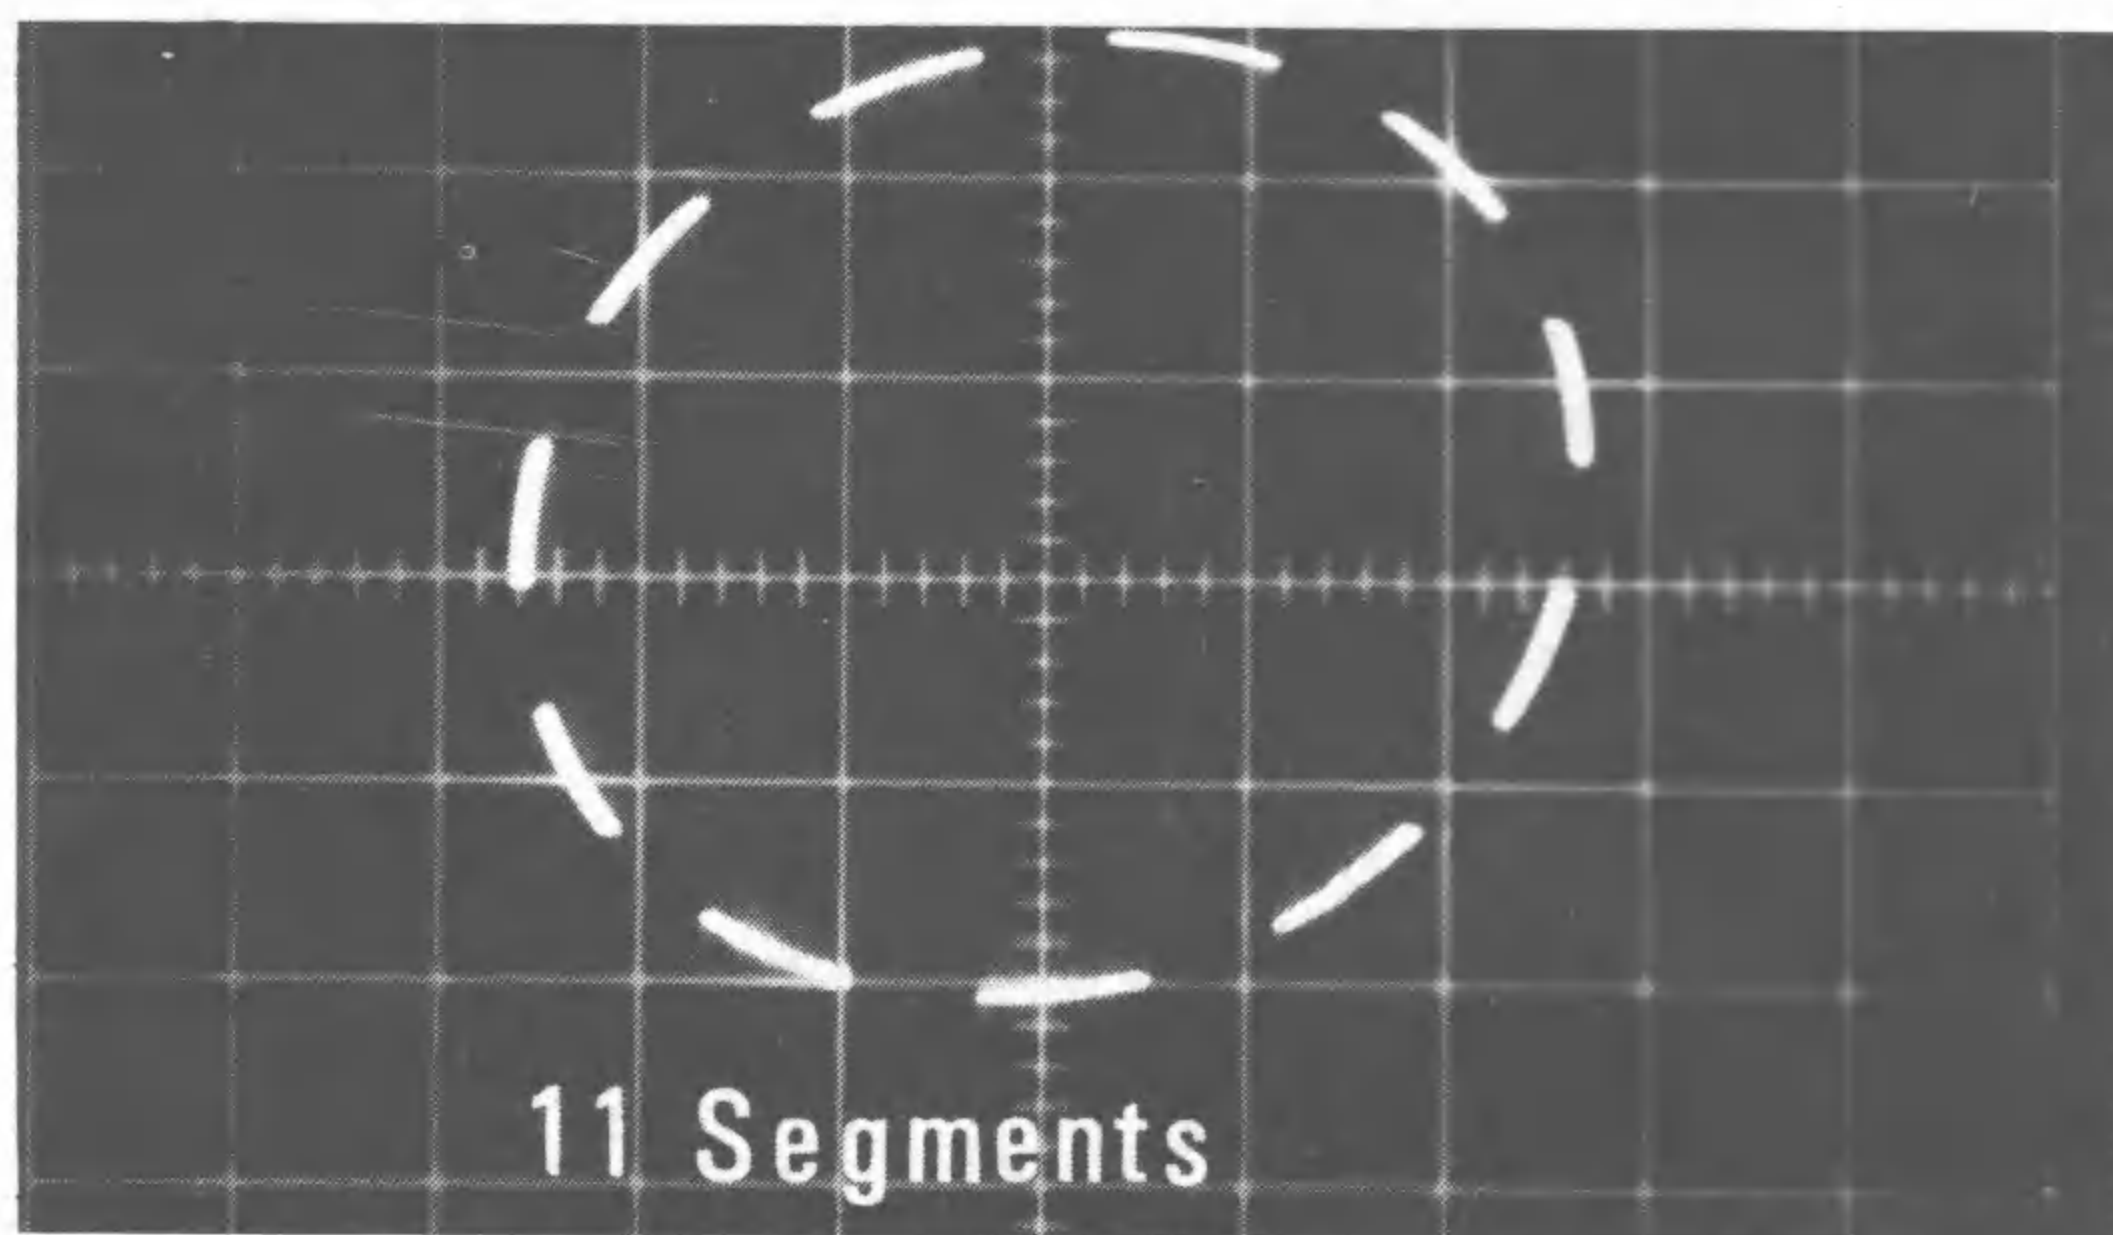

Fig. 7. Modulated ring showing unknown frequency 11 times the known frequency.
4. Apply the unknown frequency to the rear "Z" Axis jack on the PS29. Adjust the generator until the pattern stands still. Count the number of line segments to find the unknown frequency. The 11 segments shown in Fig. 7 indicate that the unknown is higher than the known frequency. Note that the shape of the overall circle is dependent upon the phase shift network and not the frequencies involved.